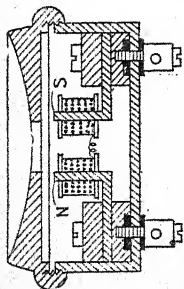

FIG. 45.
**Ring Magnet Receiver.**—This type of receiver is very extensively used at the present day, and is nearly always found in the Hand Micro-telephone shown on p. 58. Fig. 45 shows this receiver, which consists of a compound flat steel ring magnet, magnetised across one of its diameters, NS. The L-shaped iron pole pieces are screwed to the magnetised ring at these points, thus extending the polarity to the top of the vertical limbs. Bobbins of wire are slipped over these, as in the Ader type, and there is also an iron disc with a paper distance ring on each side of it. The uppermost ring is sometimes